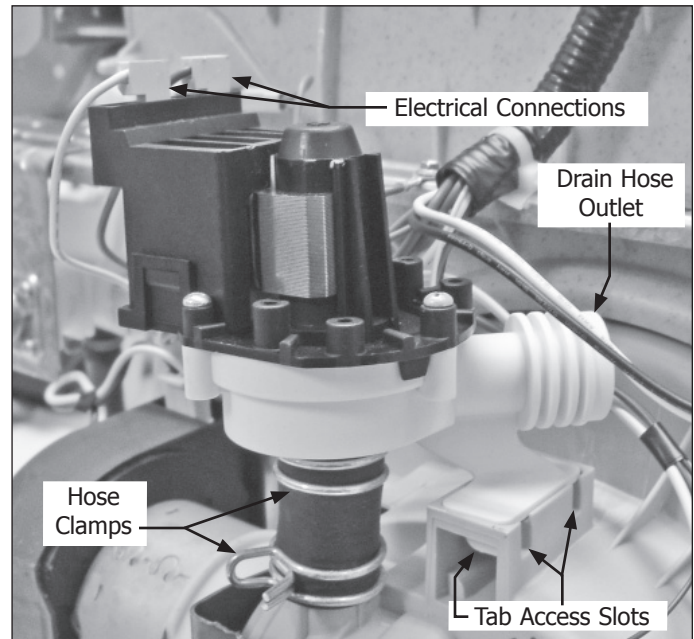

Figure 4-30.
7. Remove hose clamps from drain hose outlet and remove hose from drain pump. (See Figure 4-30)
8. Remove hose clamp from drain pump inlet hose and pull hose off sump. (See Figure 4-30)